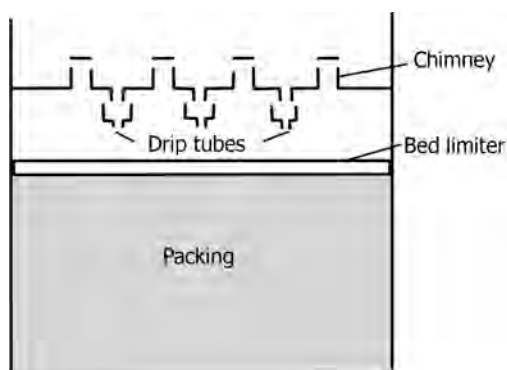

FIGURE 16.30 Multipan liquid distributor.
- A multipan liquid distributor is illustrated in Figure 16.30.
- > Figure 16.30 is for illustrative purposes only. Depending on the diameter of the column, more number of pans incorporated one below the other with lateral tubes to cover the cross section uniformly.